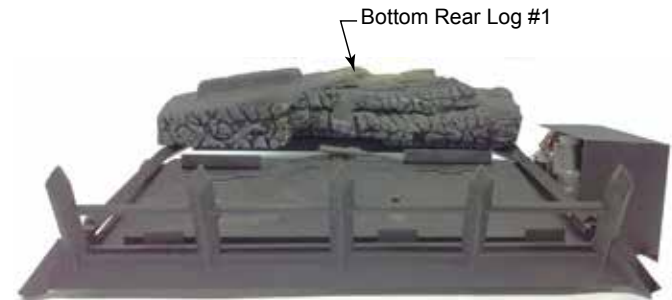

Figure 27
- Place bottom log (#1) on two (2) pins on rear of grate assembly and push towards rear as far as possible. *Figure 27*